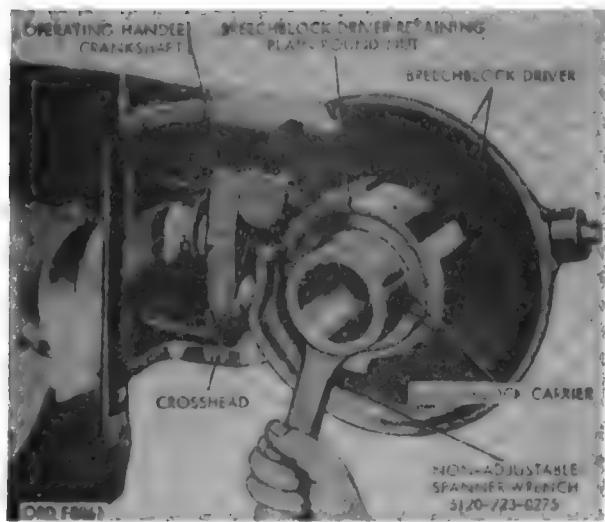
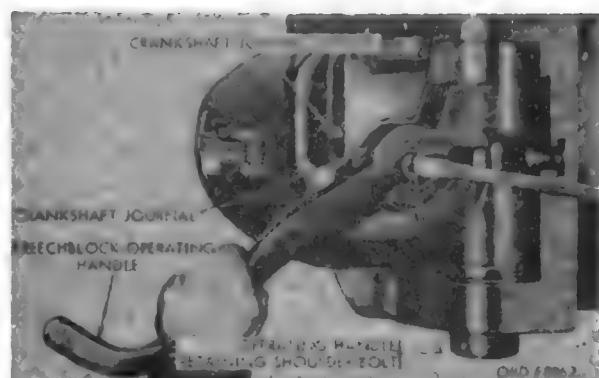

Figure 113. Removing or installing breechblock driver retaining plain round nut.
Figure 114. Removing or installing operating handle retaining shoulder bolt.
d. Remove Breechblock Driver. Remove the breechblock driver retaining ring lock screw (fig. 108) which locks the breechblock driver retaining plain round nut (fig. 113) to the breechblock carrier at the forward end of the breechblock driver. Unscrew the retaining plain round nut from the carrier, using non-adjustable spanner wrench. Slide the breechblock driver forward off its bearing surface on the breechblock carrier.
e. Remove Breechblock Operating Handle. Remove the operating handle retaining shoulder bolt (fig. 114), which holds the breechblock operating handle to the crank-
shaft journal. Withdraw the handle from the crankshaft journal. Unscrew and remove the crankshaft journal detent (figs. 114 and 115).
f. Remove Breechblock Operating Handle Crankshaft. Slide the crosshead (fig. 113) off the arm of the breechblock operating handle crankshaft. With the right hand, remove the crankshaft journal from the end of the crankshaft and withdraw it from the breechblock carrier (fig. 115), while with the left hand, remove the operating handle crankshaft through the inside of the carrier (fig. 116).
e. Install Breechblock Operating Handle. Screw the crankshaft journal detent (figs. 114 and 115) into the carrier to secure the journal. Insert the operating handle into the journal, handle upward, and secure the handle in place with the operating handle retaining shoulder bolt. Place the crosshead on its pivot on the arm of the crankshaft (fig. 113).